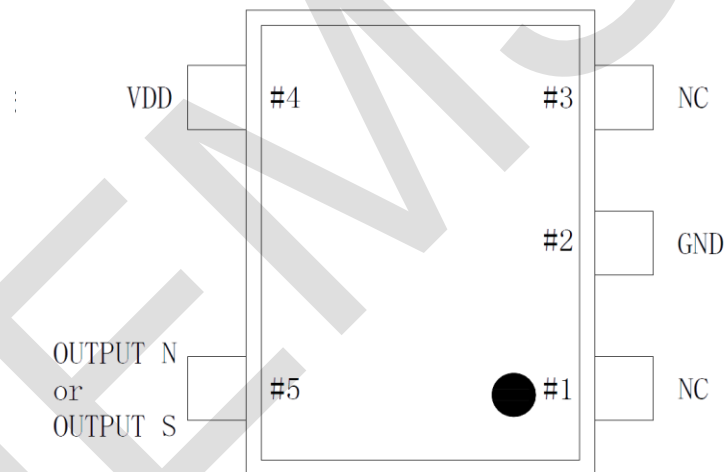

Figure 3: Pin definition (top view)
2. Recommended reflow profile for Pb free process is shown in Figure 3. The time duration of peak temperature (260°C) should be limited to 10 seconds.